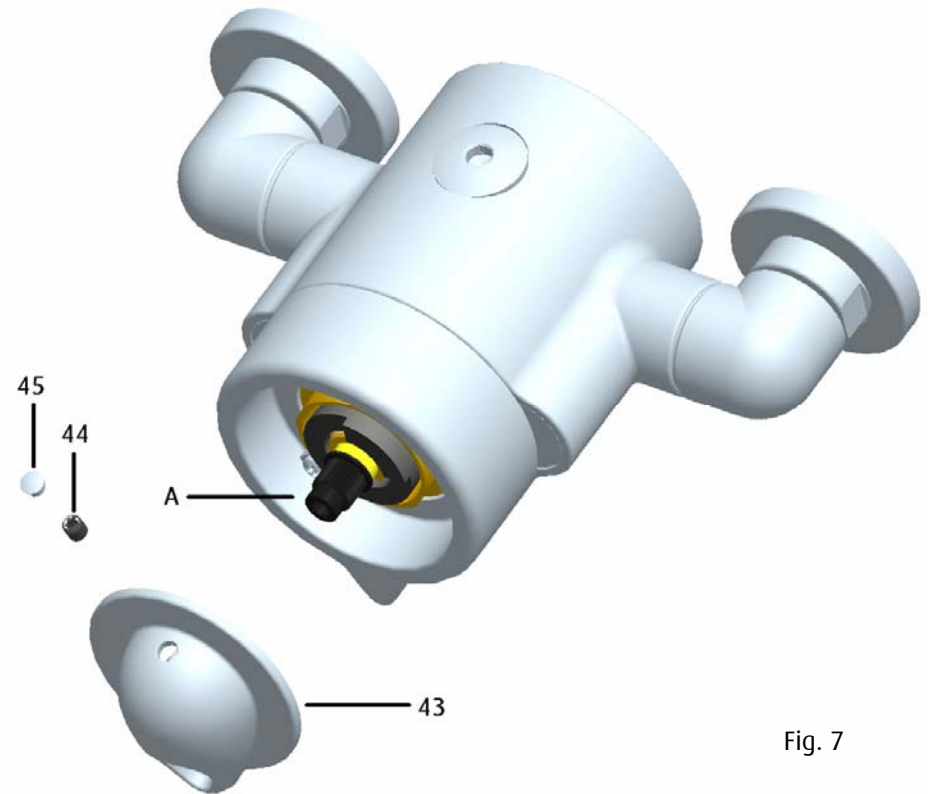

Fig. 7
8.8 Resetting the Maximum Temperature (See Fig. 7)
8.8.2 See Fig. 7 below, remove the temperature control handle (43) by removing the cap (45), loosen the grub screw (44) and pulling the handle (43) off the spindle (A).